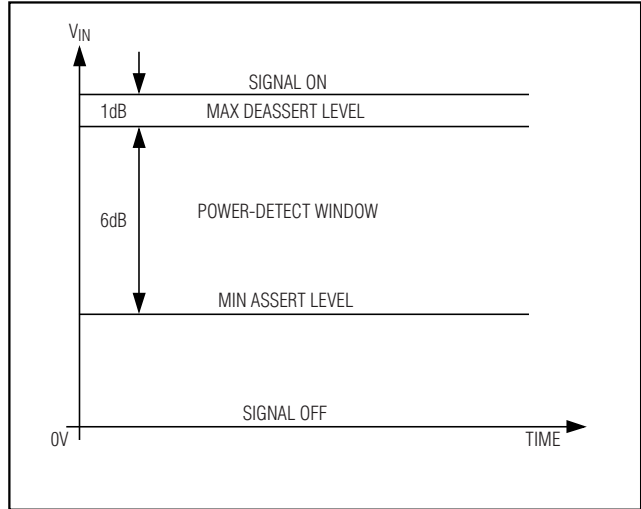

Figure 2. LOS Assert Threshold Set 1dB Below the Minimum by Receiver Sensitivity for Selected  $R_{TH}$
**Note 7:** The signal is switched between two amplitudes, Signal\_On and Signal\_Off as shown in Figure 2.
built into the LOS assert/deassert function. Once asserted, the LOS is not deasserted until the input amplitude rises to the required level ( $V_{DEASSERT}$ ). (See Figures 2 and 5.)